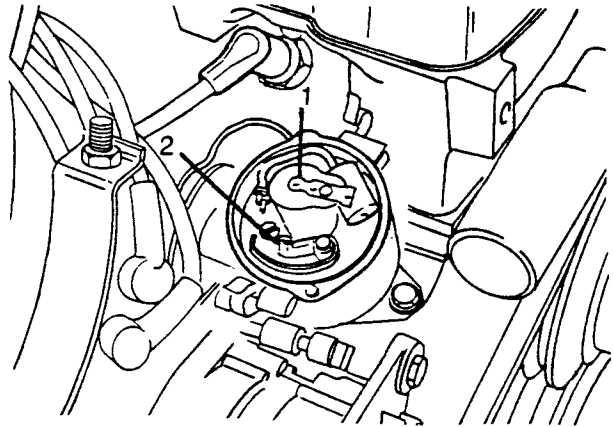

Fig B4.69
- (15) Refer to Fig B4.69. Check that No 1 cylinder is in the firing position (rotor (1) pointing to No 1 cylinder take-off and points (2) opening).